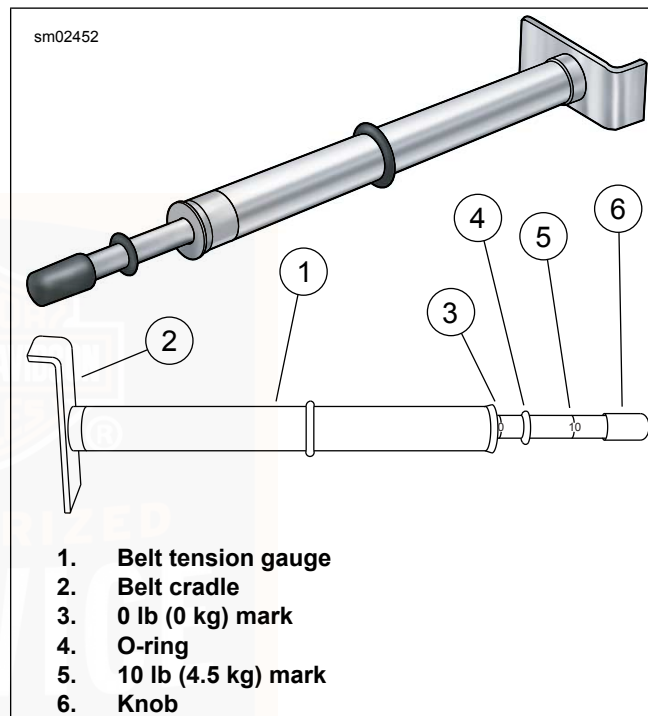

Figure 49. Belt Tension Gauge
2. See Figure 49. Measure belt deflection using: